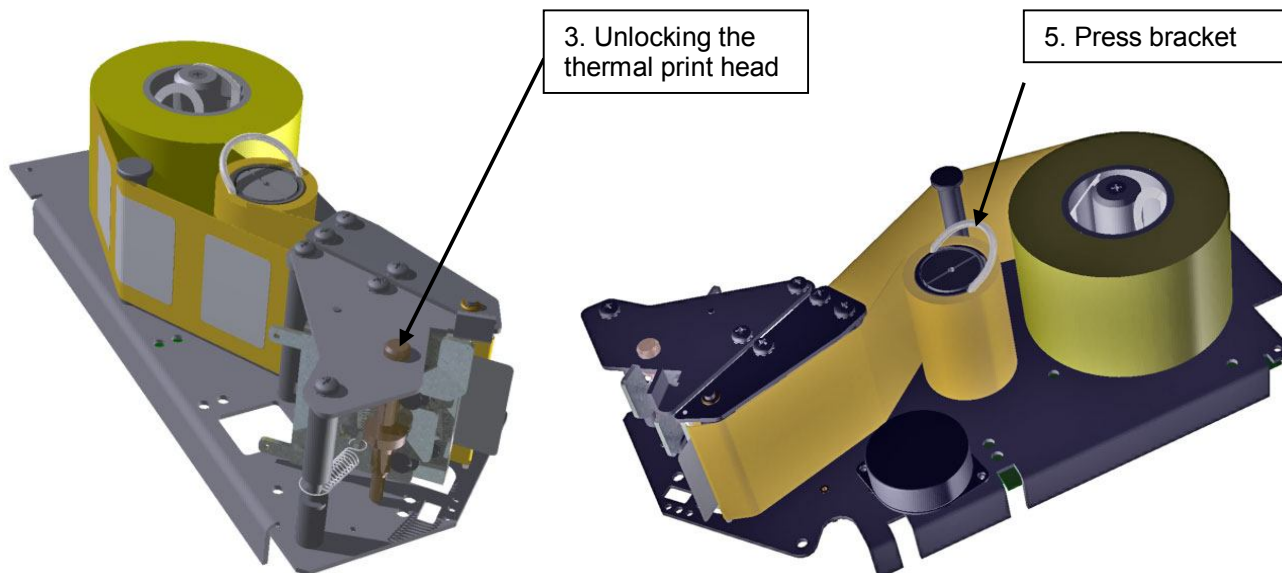

Fig. 7.2
3. Unlock the thermal print head by pushing the button (Fig.7.2)
5. Fix the caring paper tape to the rolling mechanism with the Press Bracket (Fig.7.2)